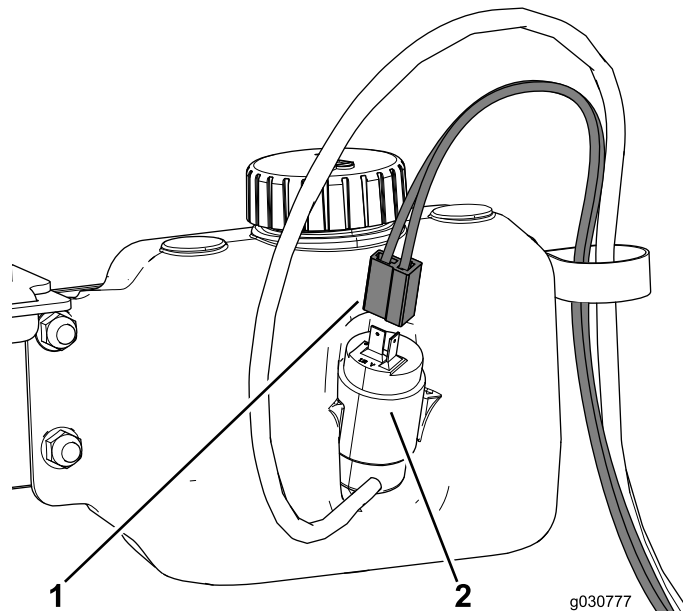

Figure 50
4. Route the wire harness for the washer bottle through the R-clamp and connect it to the bottle (Figure 50).